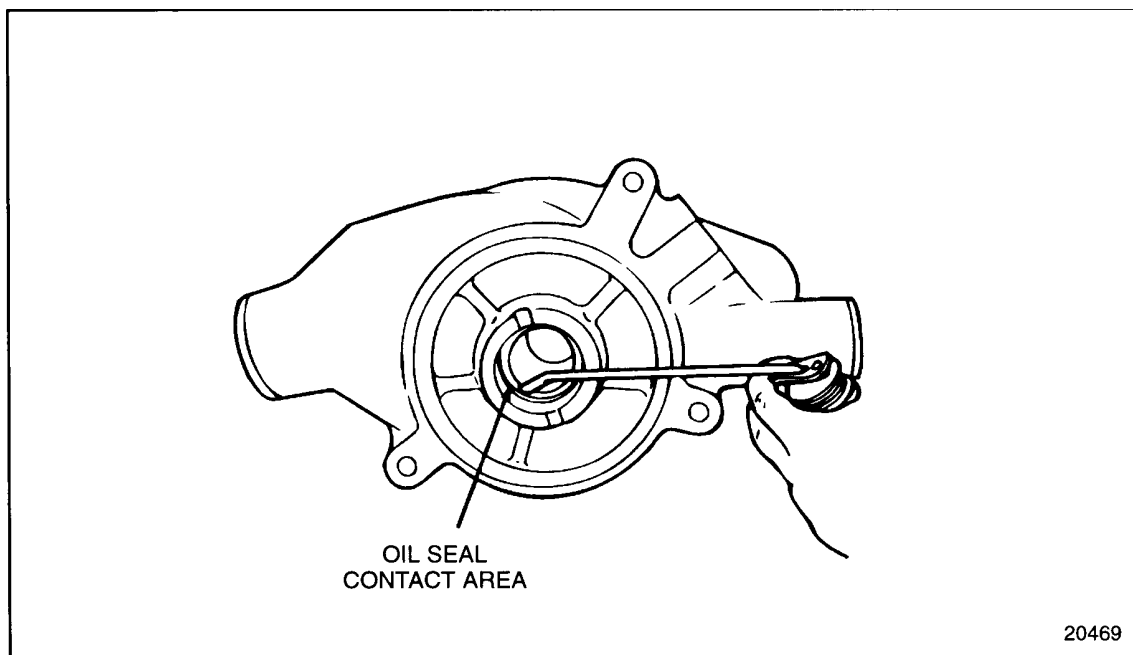

Figure 4-15 **Oil Seal Contact Area Lubrication**
1. Coat the oil seal contact area of the water pump housing with a thin film of clean engine oil. See Figure 4-15.